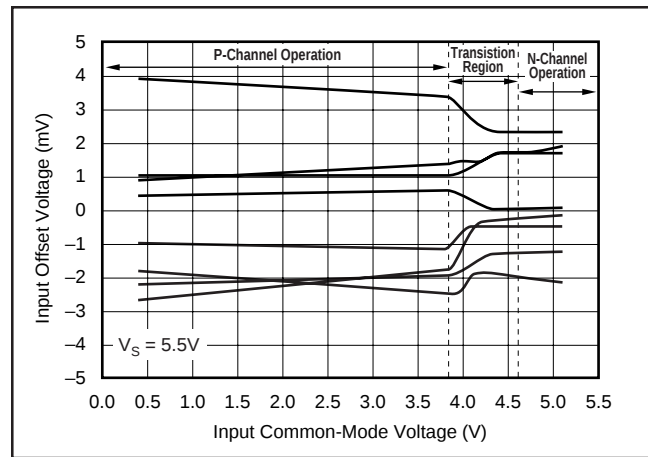
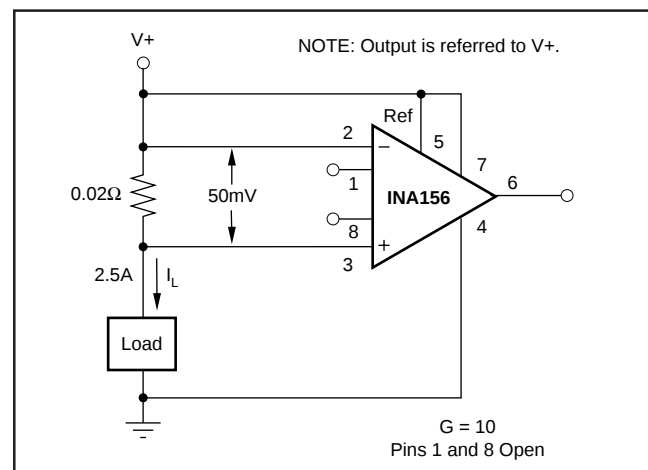

FIGURE 6. Input Offset Voltage Changes with Common-Mode Voltage.
FIGURE 7. Single-Supply, High-Side Current Monitor.
NOTES: (1) For further information, refer to typical performance curves on common-mode input range. (2) Operation beyond $(V_{+} - 1.8V)$ (max) results in reduced common-mode rejection. See discussion and Figure 6 in the text of this data sheet. (3) Does not include error and TCR of additional optional gain-setting resistor in series with R_{G1} , if used.
The internal amplifiers have rail-to-rail input stages, achieved by using complementary n-channel and p-channel input pairs. The common-mode input voltage determines whether the p-channel or the n-channel input stage is operating. The transition between the input stages is gradual and occurs between $(V+) - 1.8V$ to $(V+) - 1V$. Due to these characteristics, operating the INA156 with input voltages within the transition region of $(V+) - 1.8V$ to $(V+) - 0.8V$ results in a shift in input offset voltage, and reduced common-mode and power supply rejection performance. Typical patterns of the offset voltage change throughout the input common-mode range are illustrated in Figure 6. The INA156 can be operated below or above the transition region with excellent results. Figure 7 demonstrates the use of the INA156 in a single-supply, high-side current monitor. In this application, the INA156 is operated above the transition region.